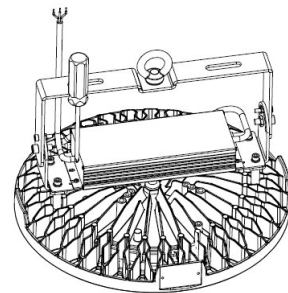

Figure 21
3. Loosen the fixing screws at the four corners of the driving power supply with a cross screwdriver and remove the driving power supply from the lamp as shown in Figure 21.